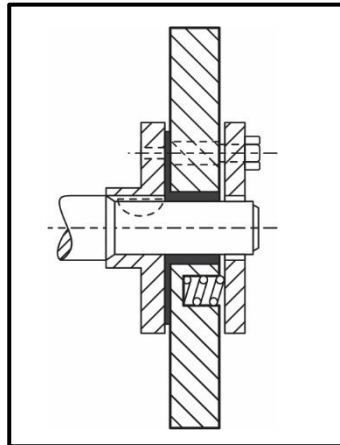

FIGURE 4.4
- D Guides exhaust gases onto the turbine (1)
4.4 Identify the vibration damper shown in FIGURE 4.4 below.